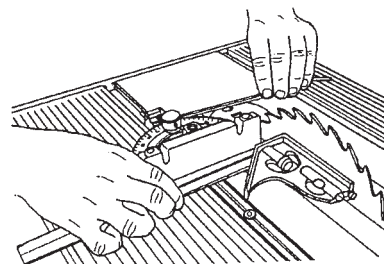

Figure C-51
- a. Use a long Allen wrench to loosen the lock knob (268) and adjust the miter gauge so it is perpendicular to the saw blade, then tighten the lock knob. See Figure C-51.